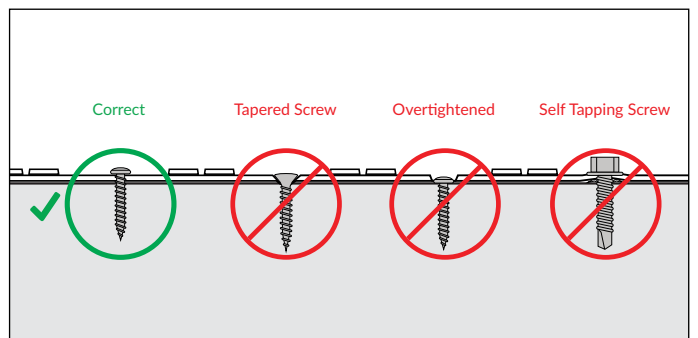

Figure 21
- **Warning:** do not over-tighten fasteners and damage the light sheet. Do not use tapered or self-tapping screws when directly fastening the light sheet (figure 21).